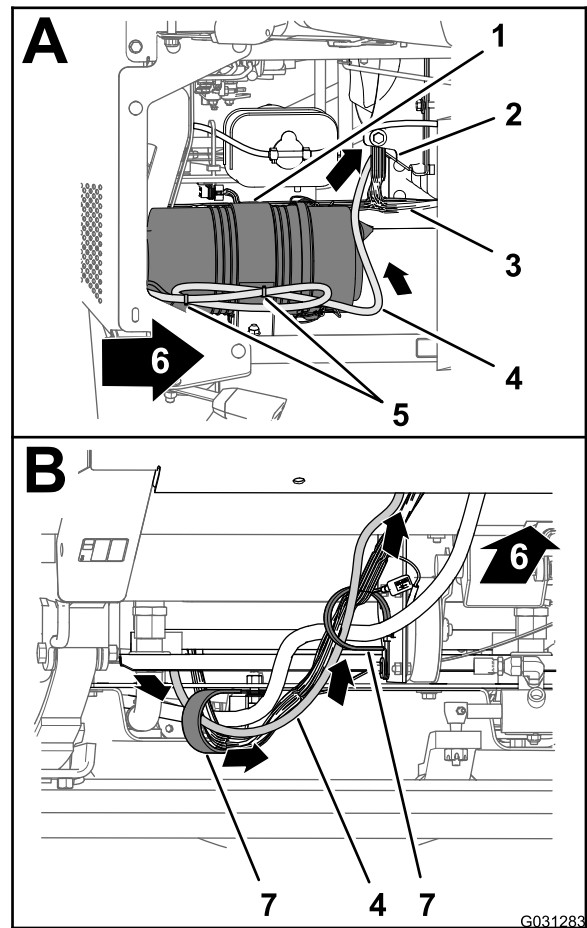

Figure 166
1. At the right side of the engine compartment, route the 220 cm (86-5/8 inches) branch of the data harness forward of the air filter for the engine and down toward the lower right corner of the radiator (Figure 166).
2. Route the route the 220 cm (86-5/8 inches) branch of the data harness forward and through the 2 R-clamps at the bottom of the machine (Figure 166).